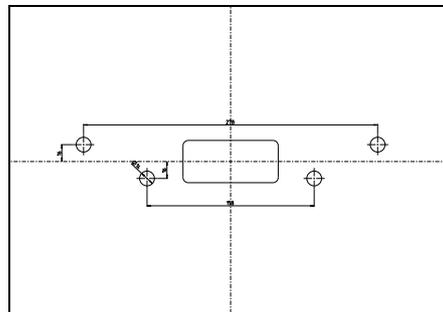

Fig. 2: Drilling dimensions
- For drilling dimensions for the anchor rods, see Fig. 2.